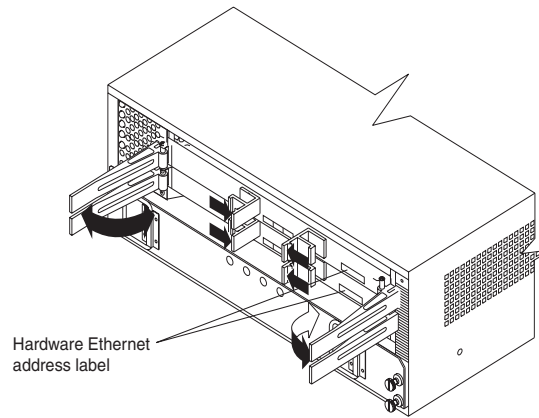
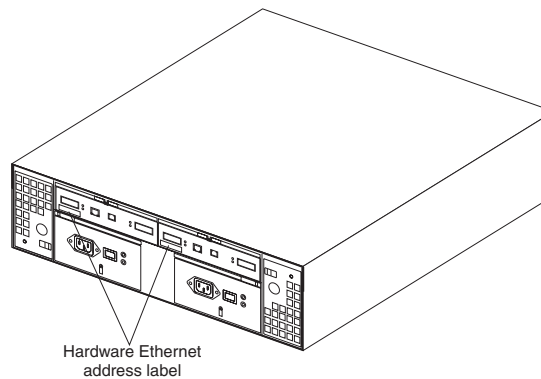

Figure 7. Location of the hardware Ethernet address on machine types 3526 and 3552
Figure 8. Location of the hardware Ethernet address on machine type 3542
3. The hardware Ethernet address labels are located on the front of each controller, as shown in Figure 7 and Figure 8.